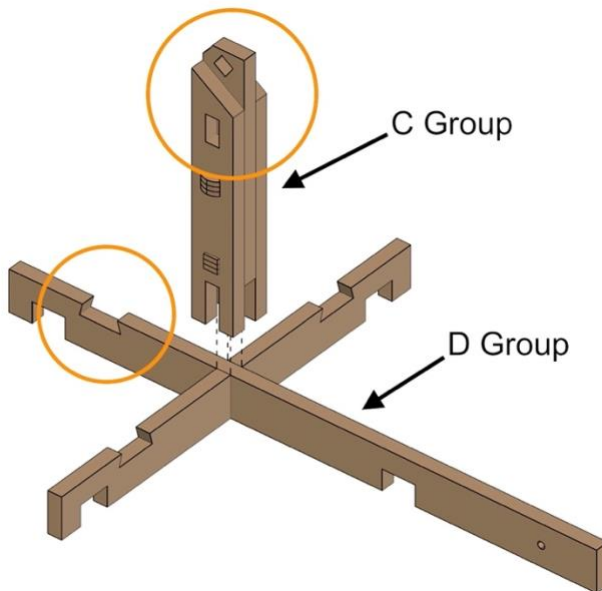

Fig. 39
- Align parts exactly as shown in *Fig. 39*.